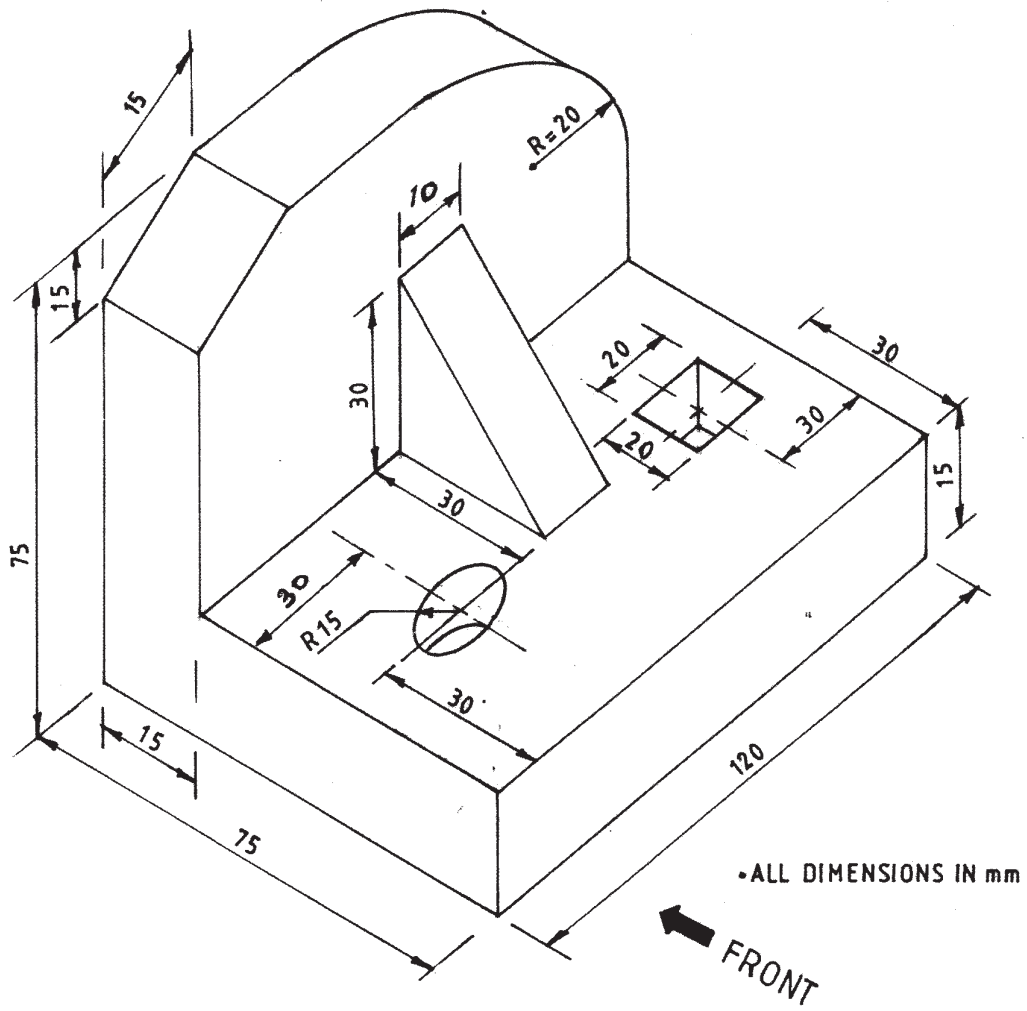

Figure 2
- 11 Figure 2 shows a pictorial view of a shaped block.